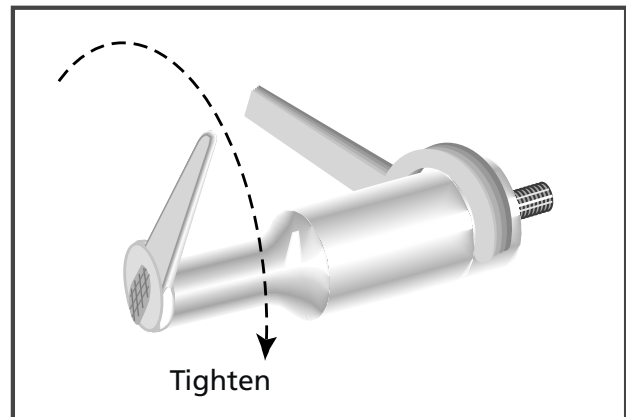

Figure 10–3 Replaceable Tip Installation
3. Thread the mounting stud into the input* end of the horn or the input* end of the booster and tighten to the following torque specifications using an allen wrench in the socket head of the mounting stud. Table 10—I lists the torque specifications in units for both English and Metric systems of measurements. Figure 10–5 is a handy conversion graph if you require intermediate values not listed in the tables.